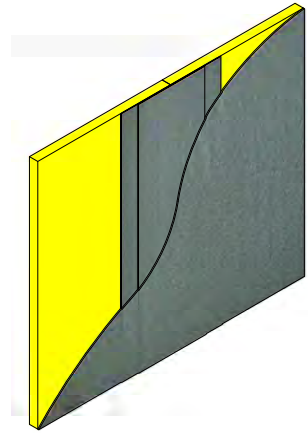

Figure 4
4. Mix and apply SENERSHIELD-R or SENERSHIELD-VB per the product bulletin instructions over substrate. (See Figure 4)